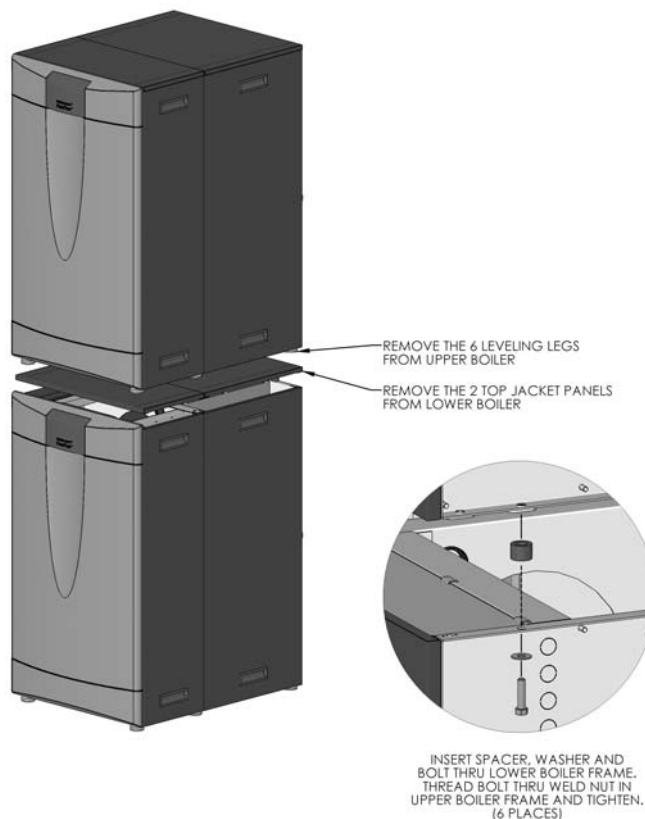

Figure 2.1: Stacking and Securing Boilers
Identical PF-850, PF-1000 or PF-1500 boilers can be stacked to save floor space on the installation. Figure 2.1 shows how the upper boiler is to be attached to the lower boiler.
4. Insert spacers, washers and bolts (provided) through the holes provided in the frame of the lower boiler and thread them into the threaded inserts on the base of the upper boiler. Figure 2.1 shows this assembly. Tighten the bolts securely.